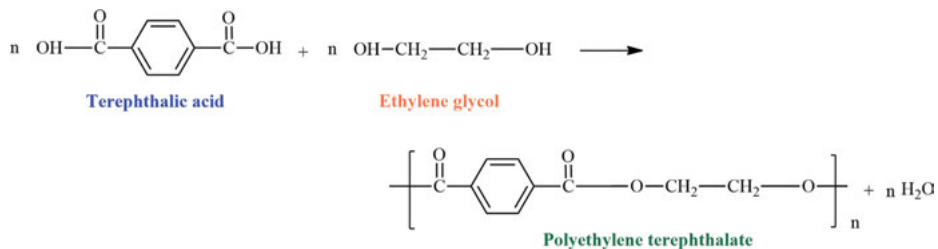

Figure 6.3: Formation of polyethylene terephthalate polymer.
**Polyesters:** When dicarboxylic acid and di-alcohol react, a water molecule is removed, and an ester linkage is formed; an example is the formation of polyethylene terephthalate polymer from the reaction of terephthalic acid with ethylene glycol (Figure 6.3).